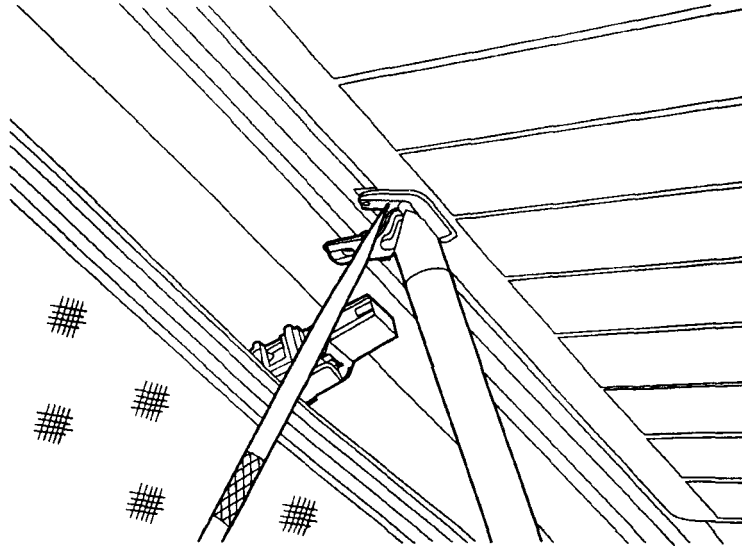

Fig. 3 CLIP ORIENTATION AND ATTACHMENT
7. Place the solder gun on the new terminal clip and heat until the solder flows. Remove the solder gun and continue to hold the clip in position for 5 seconds. Let the solder area cool for 10 minutes, (Fig. 3).